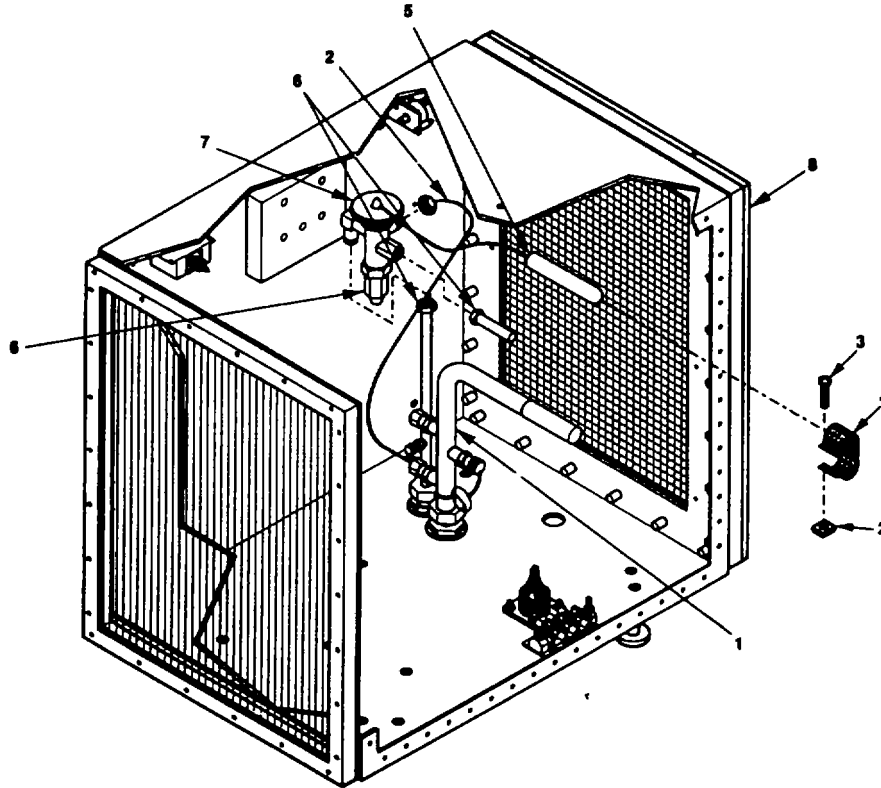

Figure 5-22. Thermoexpansion Valve Maintenance.
- (1) Remove insulation from suction line tube assembly (Figure 5-22, 1).
- (2) Remove two nuts (2), screws (3), and clamp (4) securing TEV sensing bulb (5) to side of suction line tube assembly (1). Remove and discard tiedown straps.
- (3) Loosen two flare nuts (6) and remove TEV (7).
- (1) Position TEV (Figure 5-22, 7) in evaporator assembly (8).
- (2) Align two flare nuts (6) and secure TEV (7).
- (3) Position TEV sensing bulb (5) on side of suction line tube assembly (1) and secure with clamp (4), two screws (3), and nut (2). Coil and secure capillary tube of TEV sensing bulb (5) with new tiedown straps.